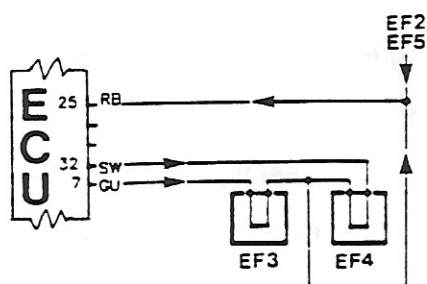

fig.50
The coolant temperature sensor (EF3) (See Figure 50) is supplied via a green/ blue wire (GU) from the ECU pin 7, and the fuel temperature sensor via a slate/white wire (SW) from pin 32. The earth return red/black wire (RB) is to pin 25, and is common with the air flow meter (EF2) and throttle potentiometer (EF5) returns.